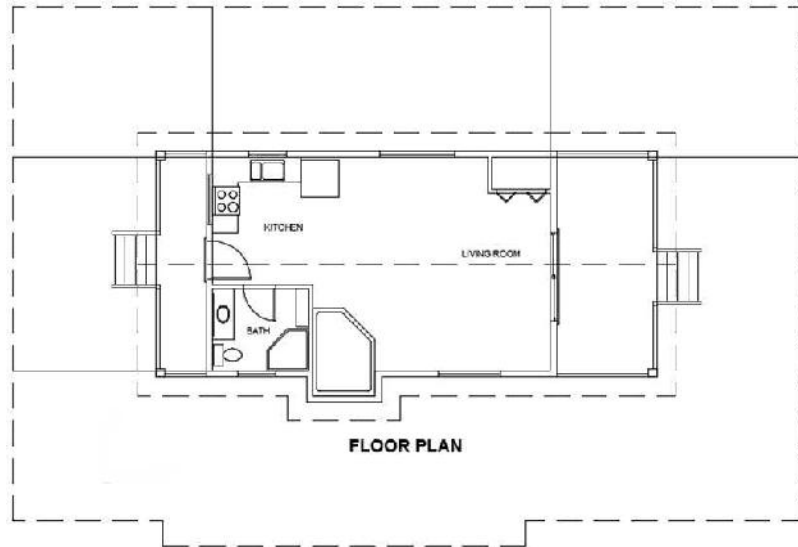

FIGURE 8.29: The first gridlines
2. Create a new layer called **A-GRID**. Assign it the color Red (1) and make it current.
7. Draw lines from the upper-left and lower-left inside corners of the exterior walls to the vertical offset line on the left (see Figure 8.29).